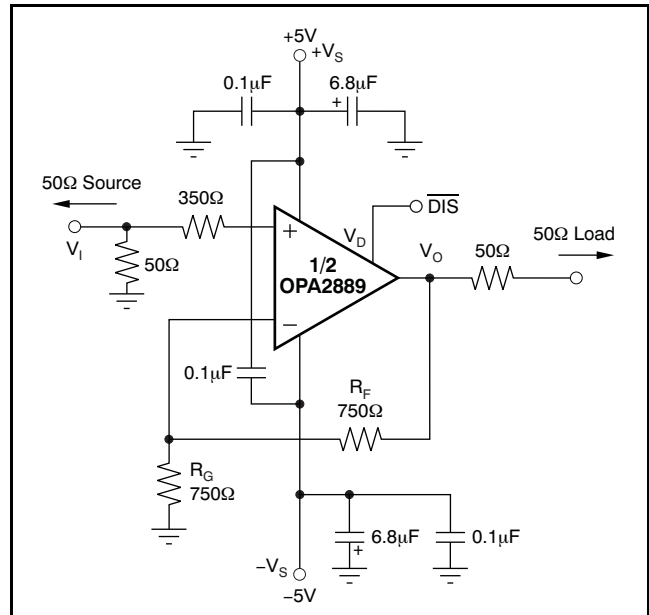
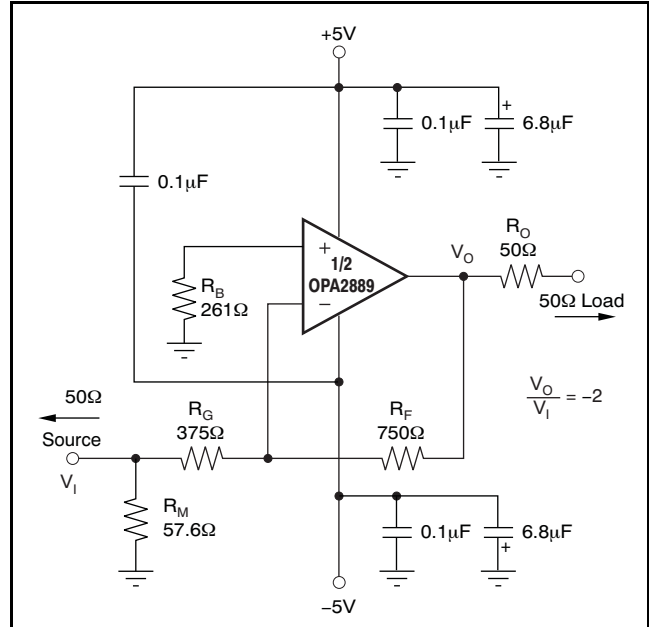

Figure 50. DC-Coupled, G = +2, Bipolar Supply, Specification and Test Circuit
Figure 60. Gain of $-2V/V$ Example Circuit
At $T_A = +25^\circ C$, $G = +2V/V$, $R_F = 750\Omega$, and $R_L = 100\Omega$, unless otherwise noted. See Figure 50.
Figure 50 shows the dc-coupled, gain of +2V/V, dual power-supply circuit configuration used as the basis of the ±5V Electrical Characteristics and ±5V Typical Characteristics. This illustration is for one channel; the other channel is connected similarly. For test purposes, the input impedance is set to 50Ω with a resistor to ground and the output impedance is set to 100Ω. Voltage swings reported in the Electrical Characteristics are taken directly at the input and output pins, while output powers (dBm) are at the matched 50Ω load. For the circuit of Figure 50, the total effective load will be 100Ω || 1.5kΩ. The disable control line (MSOP-10 package only) is typically left open for normal amplifier operation. Two optional components are included in Figure 50. An additional resistor (350Ω) is included in series with the noninverting input. Combined with the 25Ω dc source resistance looking back towards the signal generator, this resistor gives an input bias current cancelling resistance that matches the 375Ω source resistance seen at the inverting input (see the DC Accuracy and Offset Control section). In addition to the usual power-supply decoupling capacitors to ground, a 0.1μF capacitor is included between the two power-supply pins. In practical printed circuit board (PCB) layouts, this optional-added capacitor typically improves the 2nd-harmonic distortion performance by 3dB to 6dB.
A good rule of thumb is to target the parallel combination of R_F and R_G (see Figure 50) to be less than approximately 400Ω. The combined impedance $R_F \parallel R_G$ interacts with the inverting input capacitance, placing an additional pole in the feedback network and thus, a zero in the forward response. Assuming a 2pF total parasitic on the inverting node, holding $R_F \parallel R_G < 400\Omega$ keeps this pole above 160MHz. By itself, this constraint implies that the feedback resistor R_F can increase to several kΩ at high gains. This increase in resistor size is acceptable as long as the pole formed by R_F and any parasitic capacitance appearing in parallel is kept out of the frequency range of interest.
Voltage-feedback op amps exhibit decreasing closed-loop bandwidth as the signal gain increases. In theory, this relationship is described by the Gain Bandwidth Product (GBP) shown in the Electrical Characteristics. Ideally, dividing GBP by the noninverting signal gain (also called the Noise Gain, or NG) predicts the closed-loop bandwidth. In practice, this principle only holds true when the phase margin approaches 90°, as it does in high gain configurations. At low gains (increased feedback factors), most amplifiers exhibit a more complex response with lower phase margin. The OPA2889 is compensated to give a slightly peaked response in a noninverting gain of 2V/V (see Figure 50). This compensation results in a typical gain of +2V/V bandwidth of 60MHz, far exceeding that predicted by dividing the 75MHz GBP by 2. Increasing the gain causes the phase margin to approach 90° and the bandwidth to more closely approach the predicted value of (GBP/NG). At a gain of +10, the 8MHz bandwidth shown in the Electrical Characteristics agrees closely with that predicted using the simple formula and the typical GBP of 75MHz.
The frequency response in a gain of +2V/V may be modified to achieve exceptional flatness simply by increasing the noise gain to 2.5V/V. One way to modify the response without affecting the +2V/V signal gain, is to add a 750Ω resistor across the two inputs, as shown in the circuit of Figure 50. A similar technique may be used to reduce peaking in unity-gain (voltage follower) applications. For example, by using a 750Ω feedback resistor along
The OPA2889 is a general-purpose, wideband, voltage-feedback op amp; therefore, all of the familiar op amp application circuits are available to the designer. Inverting operation is one of the more common requirements and offers several performance benefits. See Figure 60 for a typical inverting configuration where the I/O impedances and signal gain from Figure 50 are retained in an inverting circuit configuration.
In the inverting configuration, three key design considerations must be noted. The first is that the gain resistor (R_G) becomes part of the signal channel input impedance. If input impedance matching is desired (which is beneficial whenever the signal is coupled through a cable, twisted-pair, long PCB trace, or other transmission line conductor), R_G may be set equal to the required termination value and R_F adjusted to give the desired gain. This consideration is the simplest approach and results in optimum bandwidth and noise performance. However, at low inverting gains, the resultant feedback resistor value can present a significant load to the amplifier output. For an inverting gain of $-2V/V$, setting R_G to 50Ω for input matching eliminates the need for R_M but requires a 100Ω feedback resistor. This approach has the interesting advantage that the noise gain becomes equal to $2V/V$ for a 50Ω source impedance—the same as the noninverting circuits considered in Figure 60. The amplifier output, however, now sees the 100Ω feedback resistor in parallel with the external load. In general, the feedback resistor should be limited to the 200Ω to 1.5kΩ range. In this case, it is preferable to increase both the R_F and R_G values (see Figure 60), and then achieve the input matching impedance with a third resistor (R_M) to ground. The total input impedance becomes the parallel combination of R_G and R_M .
The second major consideration, touched on in the previous paragraph, is that the signal source impedance becomes part of the noise gain equation and influences the bandwidth. For the example in Figure 60, the R_M value combined in parallel with the external 50Ω source impedance yields an effective source driving impedance of $50\Omega \parallel 57.6\Omega = 26.7\Omega$. This impedance is added in series with R_G for calculating the noise gain (NG). The resulting NG is $2.86V/V$ for Figure 60, as opposed to only $2V/V$ if R_M could be eliminated as discussed above. Therefore, the bandwidth is slightly lower for the gain of $-2V/V$ circuit of Figure 60 than for the gain of $+2V/V$ circuit of Figure 50.
The third important consideration in inverting amplifier design is setting the bias current cancellation resistor on the noninverting input (R_B). If this resistor is set equal to the total dc resistance looking out of the inverting node, the output dc error, as a result of the input bias currents, is reduced to $(\text{Input Offset Current}) \times R_F$. If the 50Ω source impedance is dc-coupled in Figure 60, the total resistance to ground on the inverting input is 402Ω.
The OPA2889 provides good distortion performance into a 200Ω load on $\pm 5V$ supplies. Relative to alternative solutions, it provides exceptional performance into lighter loads and/or operating on a single +5V supply. Generally, until the fundamental signal reaches very high frequency or power levels, the 2nd-harmonic dominates the distortion with a negligible 3rd-harmonic component. Focusing then on the 2nd-harmonic, increasing the load impedance improves distortion directly. Remember that the total load includes the feedback network; in the noninverting configuration (see Figure 50), this total is the sum of $R_F + R_G$, while in the inverting configuration it is just R_F . Also, providing an additional supply-decoupling capacitor ($0.1\mu F$) between the supply pins (for bipolar operation) improves the 2nd-order distortion slightly (3dB to 6dB). Operating differentially also lowers 2nd-harmonic distortion terms (see the plot on the front page).
Evaluating these two equations for the OPA2889 circuit and component values (see Figure 50) gives a total output spot noise voltage of 18.2nV/√Hz and a total equivalent input spot noise voltage of 9.1nV/√Hz. This total includes the noise added by the bias current cancellation resistor (350Ω) on the noninverting input. This total input-referred spot noise voltage is slightly higher than the 8nV/√Hz specification for the op amp voltage noise alone. This result is the case as long as the impedances appearing at each op amp input are limited to the
previously recommend maximum value of 400Ω. Keeping both ($R_F \parallel R_G$) and the noninverting input source impedance less than 400Ω satisfies both noise and frequency response flatness considerations. Because the resistor-induced noise is relatively negligible, additional capacitive decoupling across the bias current cancellation resistor (R_B) for the inverting op amp configuration of Figure 60 is not required.
The balanced input stage of a wideband voltage-feedback op amp allows good output dc accuracy in a wide variety of applications. The power-supply current trim for the OPA2889 gives even tighter control than comparable amplifiers. Although the high-speed input stage does require relatively low $\pm 0.75\mu\text{A}$ input bias current, the close matching between them may be used to reduce the output dc error caused by this current. The total output offset voltage may be reduced by matching the dc source resistances appearing at the two inputs. This matching reduces the output dc error resulting from the input bias currents to the offset current times the feedback resistor. Evaluating the configuration of Figure 50, and using worst-case +25°C input offset voltage and current specifications, gives a worst-case output offset voltage equal to: